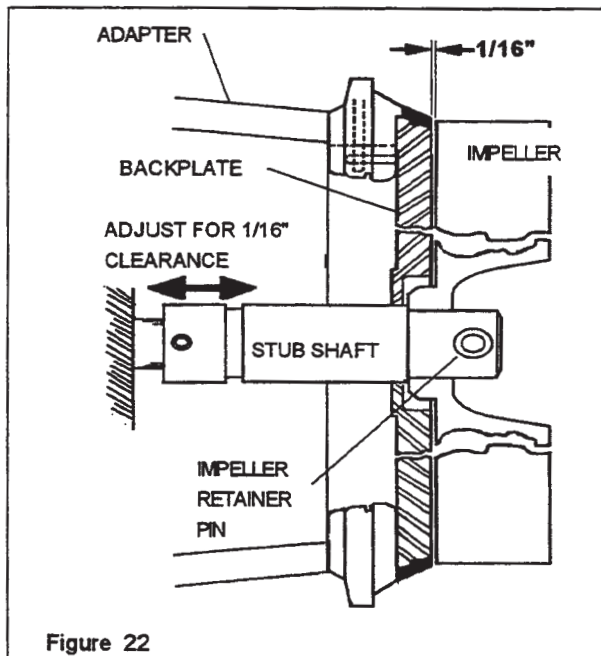

Figure 22
5. Rotate the stub shaft until the impeller retaining hole is in a horizontal position. Insert the impeller retainer pin, and center it in the stub-shaft. Slide the impeller on the shaft. Hold the impeller tight against the shoulder in the shaft and rotate the shaft one-quarter turn until the impeller pin engages with the impeller. (Figure 22)
2. Move the stub-shaft away from the motor shaft to allow 1/16-inch maximum clearance between the rear face of the impeller and the front (inside) face of the backplate. (See Figure 22)